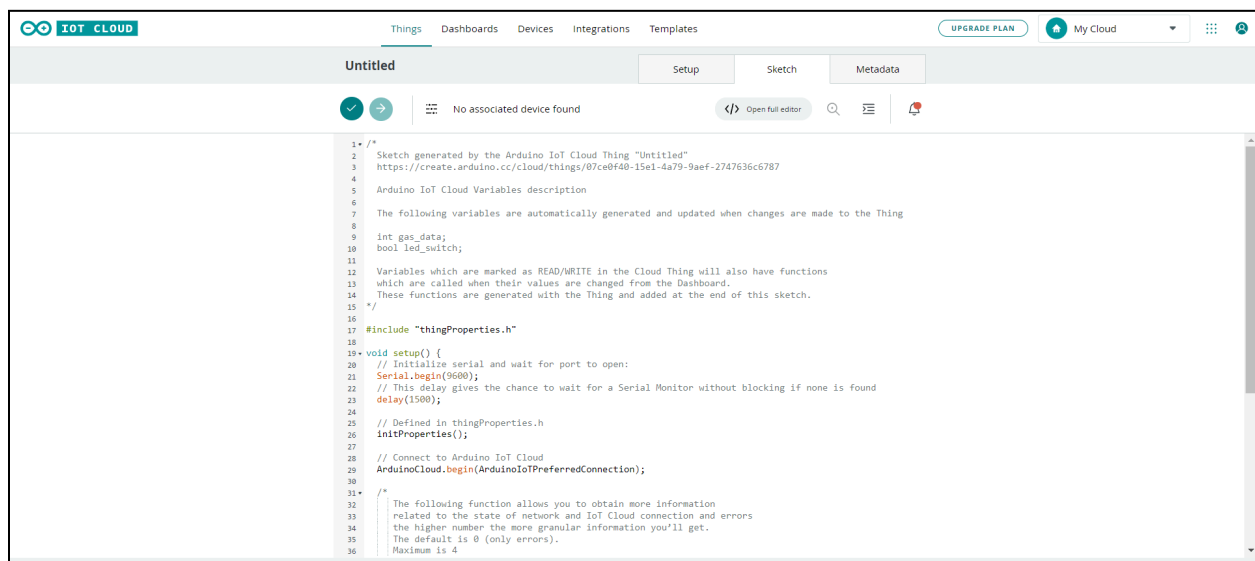

Fig. 19: Write in the Sketch (Code)
3. The next step is to program the board. To do so, we need to go to the "*Sketch*" tab (Fig. 19).